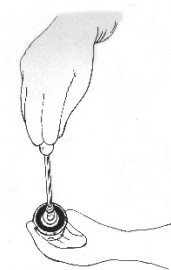

Figure 5 : Inserting the Holder Handle
1. The TTK Chitra Heart Valve is pre mounted in its holder. Insert the Holder Handle into the Holder Head and rotate clockwise until the holder is just secured (Ref Figure 5). The ID number tag must be removed from the sewing ring now.
2. Release the holder from the valve by cutting the suture present on the holder using a scalpel blade along the groove provided in the holder and remove the holder (Refer Figure 5)